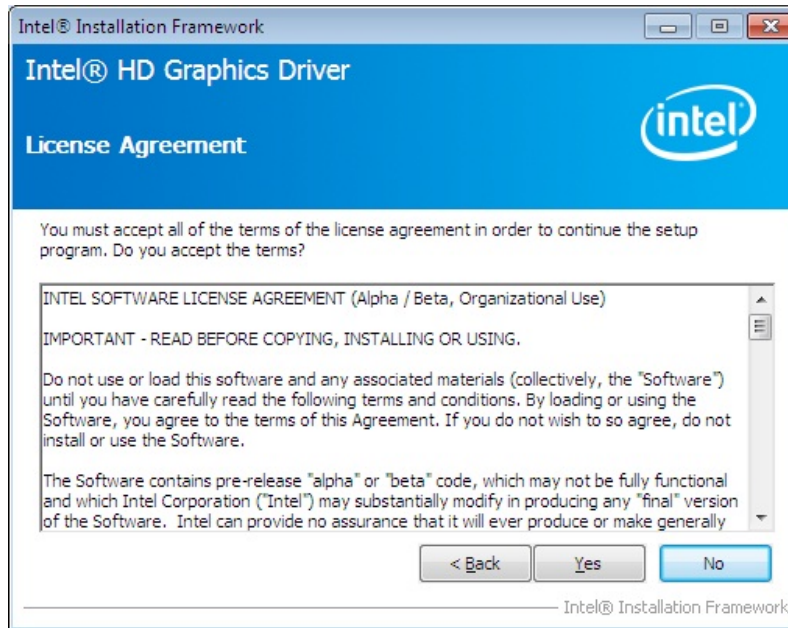

Figure 6-9: Graphics Driver License Agreement
- Step 6:** The **License Agreement** in **Figure 6-9** appears.